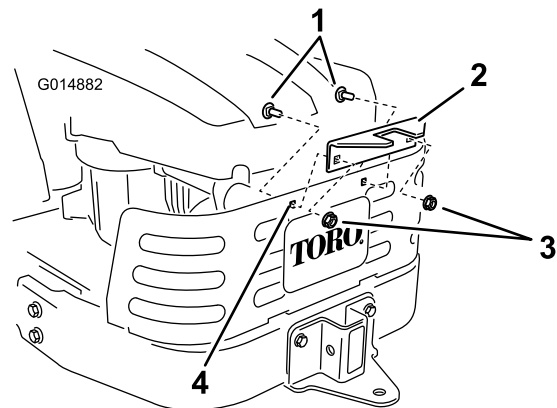

Figure 12
4. Install the bagger frame to the support bracket. Secure the bagger frame with a clevis pin (1/2 x 2-1/4 inch) and hair pin cotter (Figure 12).